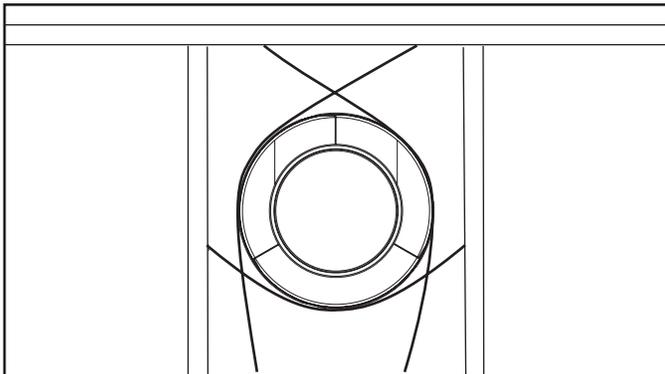

Figure 8.8 Securing Vertical Pipe Sections
- Vent supports or plumbers strap (spaced 120° apart) may be used to support. See Figures 8.8 and 8.9.